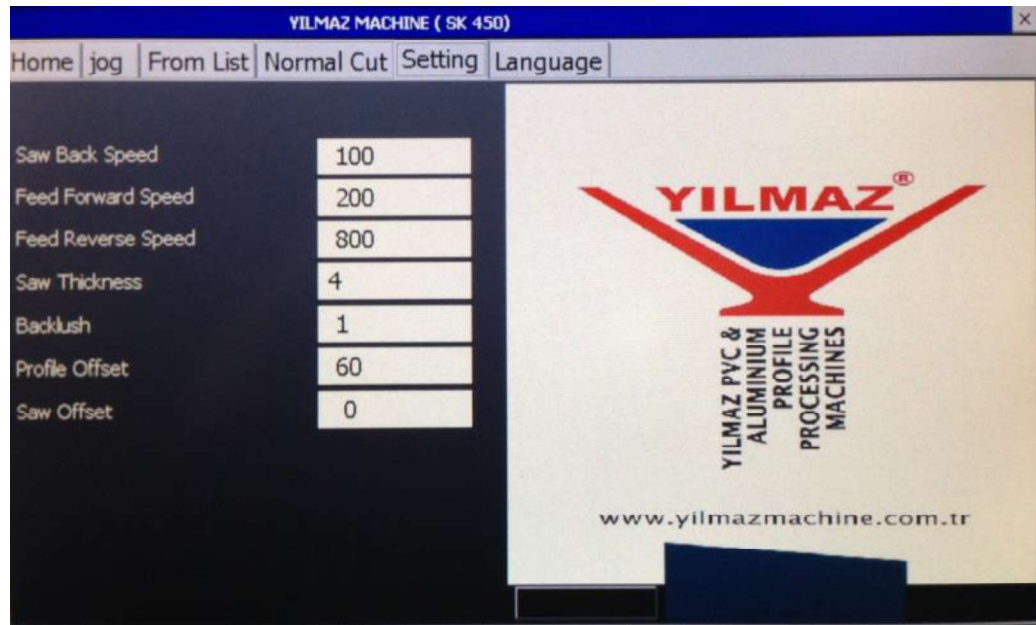

FIGURE 22
7.2.8.2 The left hand side of logo contains the settings that operator can adjust. (FIGURE 22)
7.2.9.1 Press on  section (FIGURE 22)
7.2.9.2 Press on  button in settings screen (FIGURE 22).